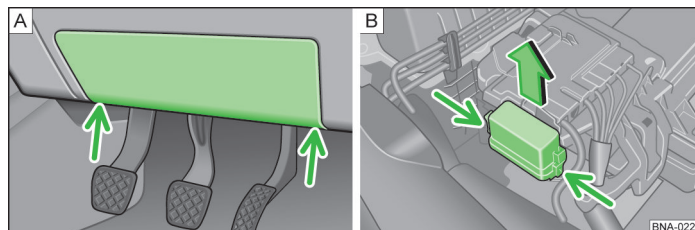

Fig. 82 Distribution board cover: on the driver's side of the dashboard / front left in the engine compartment
- Insert a flat object, e.g. a screwdriver, into the recesses » fig. 82 - A » page 155 (arrows) and carefully lever off the cover.
- Press the locking tabs together to unlock the cover on the distribution board » fig. 82 - B » page 155 (arrows).